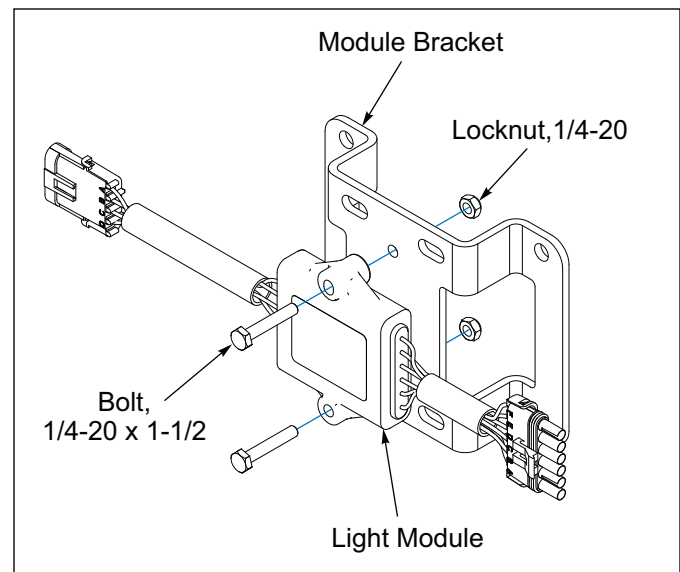

Figure 2-43: Light Module and Bracket
5. Attach the Light Module to the Module Bracket with 1/4-20 x 1-1/2 Bolts and Locknuts. See Figure 2-43.